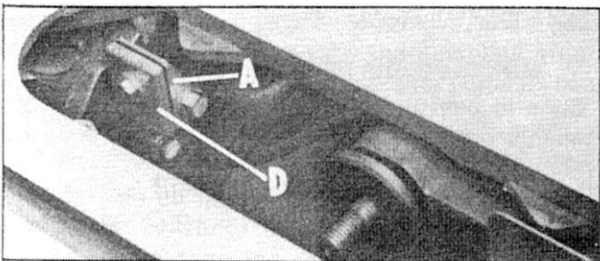

Fig. 10
3. Assemble splitter fastening plate (D) to the bracket (A), using the screw and washer provided, as shown in Fig. 10.